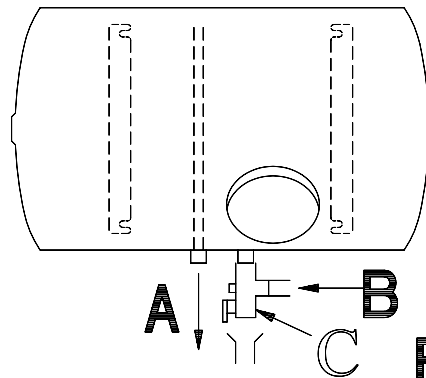

Fig. 8
- Fig.8 horizontal tubes sur virole
- Fig.8 horizontal tubes on collar